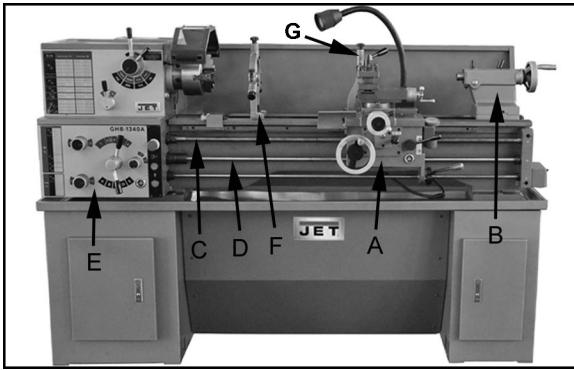

Figure 8-2
3. **Gear Shaft** – Remove set screw (F, Figure 8-2) and oil with a couple drops of Mobil DTE® Oil Heavy Medium once weekly.
The apron (A, Figure 8-2) is mounted to the carriage. In the apron a half nut is fitted. The half nut gibbs can be adjusted from the outside. The half nut is engaged by use of a lever. Quick travel of the apron is accomplished by means of a bed-mounted rack and pinion, operated by a handwheel on front of apron.
The tailstock (B, Figure 8-2) slides on a v-way and can be locked at any location by a clamping lever. The tailstock has a heavy-duty spindle with a Morse Taper #3.
The leadscrew (C Figure 8-2) and feed rod (D, Figure 8-2) are mounted on the front of machine bed. They are connected to the gearbox at the left for automatic feed and lead. They are supported by bushings on both ends.
The gear box (E, Figure 8-2) is made from high quality cast iron and is mounted to left side of machine bed.
The steady rest (F, Figure 8-2) serves as a support for shafts on the free tailstock end. The steady rest is mounted on the bedway and secured from below with bolt, nut and locking plate.
The traveling follow rest (G, Figure 8-2) is mounted on the saddle and follows the movement of the turning tool. Only two fingers are required as the turning tool takes the place of the third. The follow rest is used for tuning operations on long, slender workpieces. It prevents flexing of the workpiece from the pressure of the cutting tool.